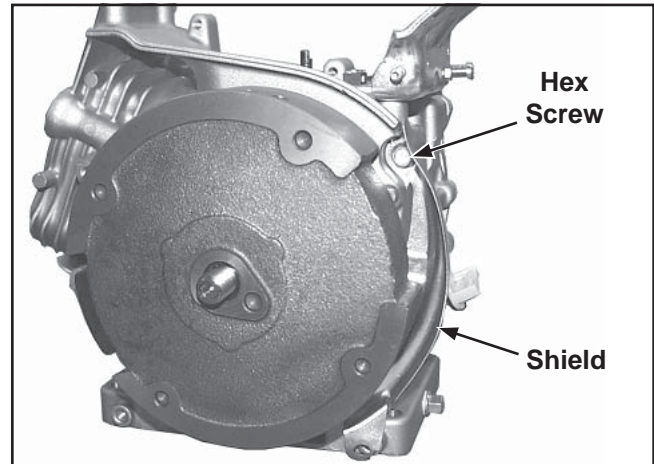

Figure 9-41. Removing Flywheel Shield.
3. Remove hex screw and shield (CH270 only) on right side of flywheel (required for use of puller in next step). See Figure 9-41.